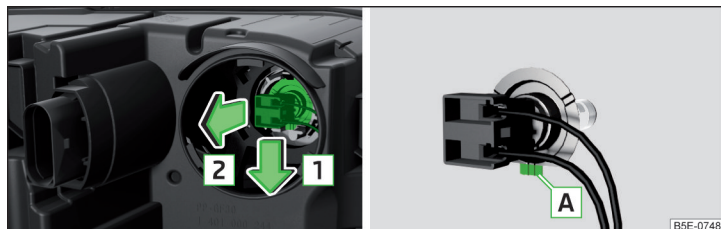

Fig. 350 Changing the bulb for the main beam
- › Disconnect the connector with the light bulb in the direction of arrow **1** » Fig. 350.